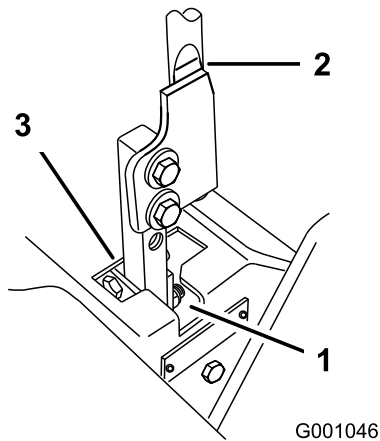

Figure 61
5. Move the lever to the neutral position but not locked (Figure 61).
6. Pull the lever back until the clevis pin (on arm below pivot shaft) contacts the end of the slot (just beginning to put pressure on the spring) (Figure 61).
7. Check where the control lever is relative to notch in console (Figure 61). It should be centered allowing lever to pivot outward to the neutral lock position.